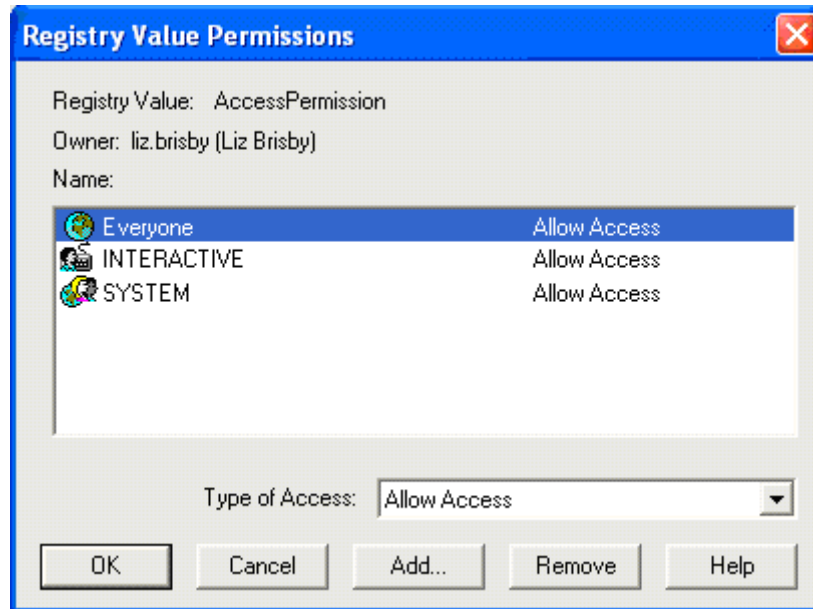

Figure 33 - Registry Value Permissions Window
8. The **Registry Value Permissions** window (Figure 33) appears.